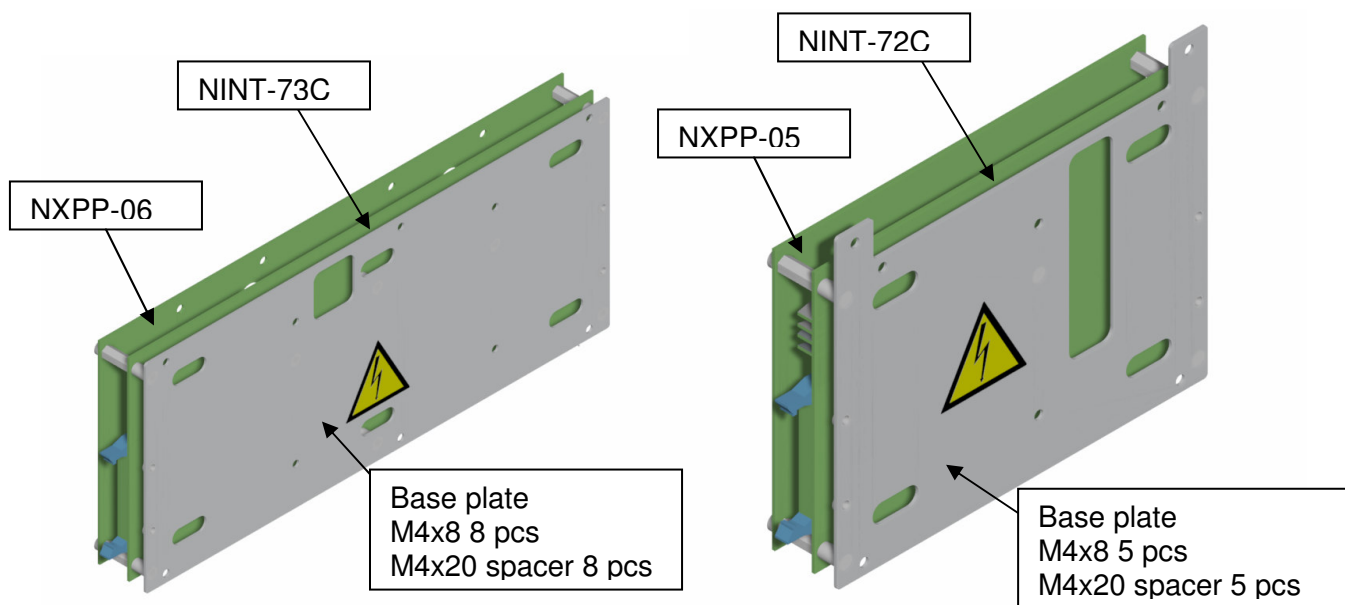

Figure 2. Replace NINT-73C with NXPP-03C (R12i, left)
2. Remove the NINT-XX subassembly. Replace the NINT-72C/73C with NXPP-02C/03C (figure 2).